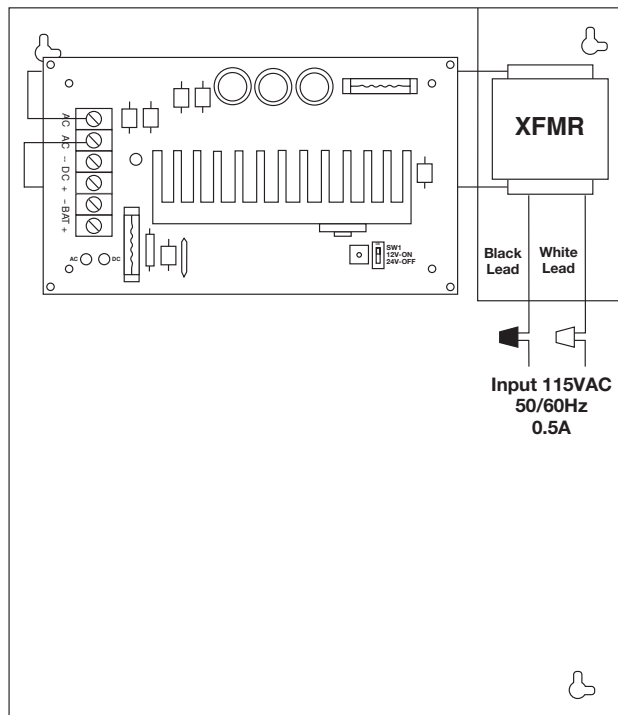

Fig. 1
2. Connect AC power to the black and white flying leads of the transformer (Fig. 1).
4. Connect devices to be powered to the terminals marked [- DC +] (Fig. 1).
5. Connect battery to the terminals marked [- BAT +] (Fig. 1) on the unit (battery leads included).